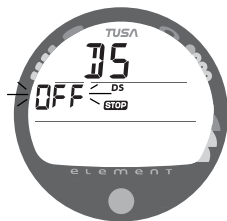

Fig. 24 - SET DEEP STOP
- After having set and accepted the FO2 50% Default Set Point, the Set DS screen appears with the Set Point flashing (Fig. 24).